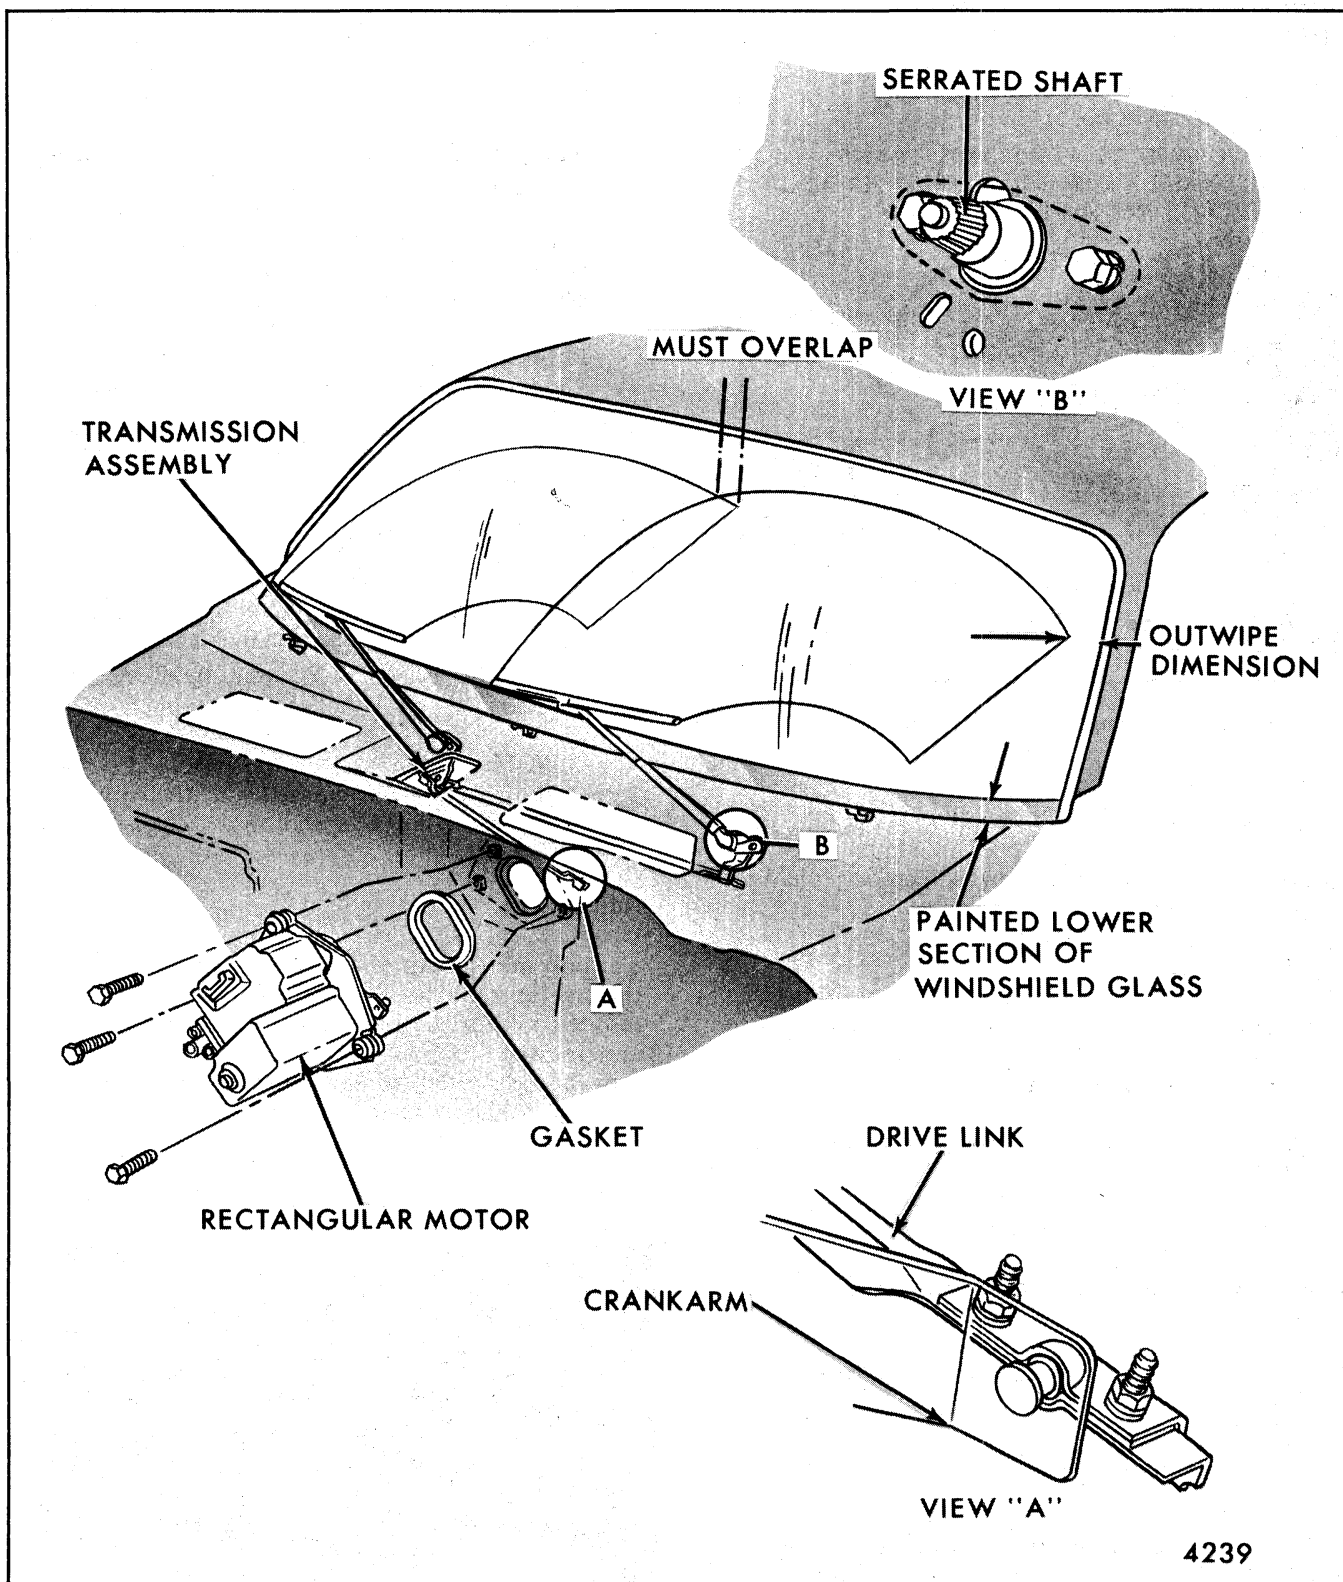

Fig. 2-8-Wiper Installation and Wipe Pattern - "F" Styles
3. Reaching through cowl opening, loosen (do not remove) the transmission drive link attaching nuts to motor crank arm (Fig. 2-8).
The parked position for "F" styles is indicated in Figure 2-8. On "X" styles, the tip of the left blade should rest 1.50" and the tip of the right blade 1.25" above top edge of windshield lower reveal molding. On "H" styles the tip of the left blade should rest approximately 2.00" and the tip of the right blade within 2.00" of top edge of lower windshield reveal molding. The outwiper dimension shown in Figure 2-8 is as follows: